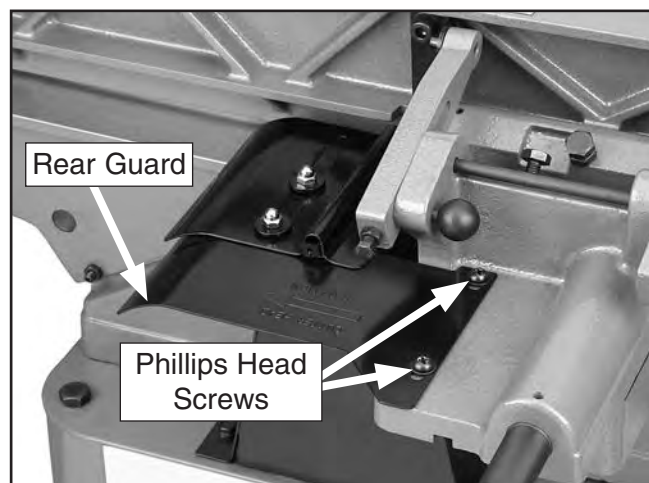

Figure 28. Rear guard installed on fence support.
29. Install the rear guard onto the carriage with the two Phillips head screws and flat washers already on the fence support, as shown in **Figure 28**.